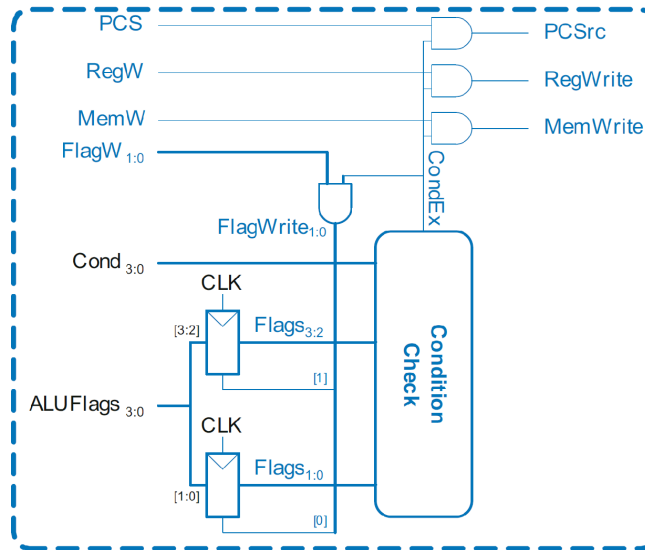

Figure 2: ARM Processor Controller with FlagW
The addition of CondEx would be meaningless if we could not store resulting flags from a compare (CMP) instruction. The purpose of the CMP instruction, for this lab, is to perform a subtraction and store the resulting flags. Since we are already familiar with how to conduct a subtraction and provide the flags with our ALU, the datapath section did not need to be adjusted for this new instruction. However, our controller needed to be updated to accommodate the CMP instructions. To start, we created a 4-bit register called FlagsReg. When the appropriate instruction is provided, the variable 2-bit FlagW will turn on and allow the previous flags to be replaced by current ones. The FlagW variable has the option to choose between storing the first two flags (NZ) with the first bit, and storing the second two flags (CV) with the second bit. Figure 2 shows this variable as well as the variable CondEx in more detail.